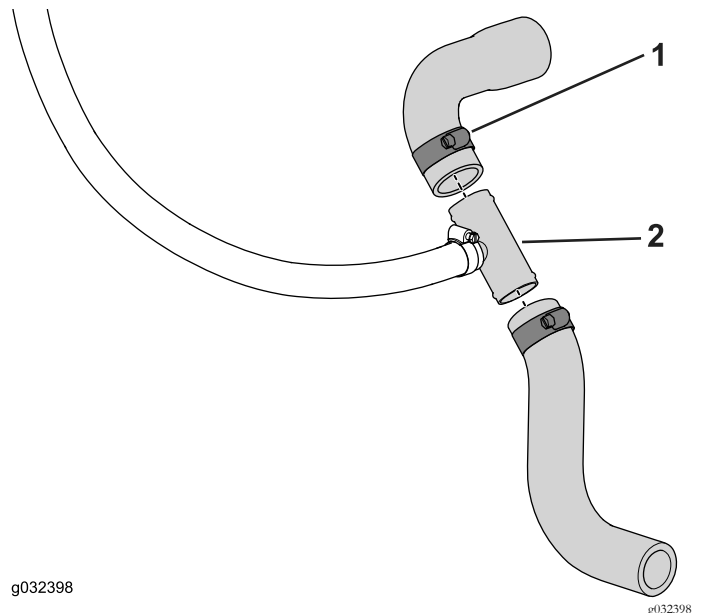

Figure 19
3. Slide the cut ends over the tee fitting and secure it using the hose clamp as shown in Figure 19.